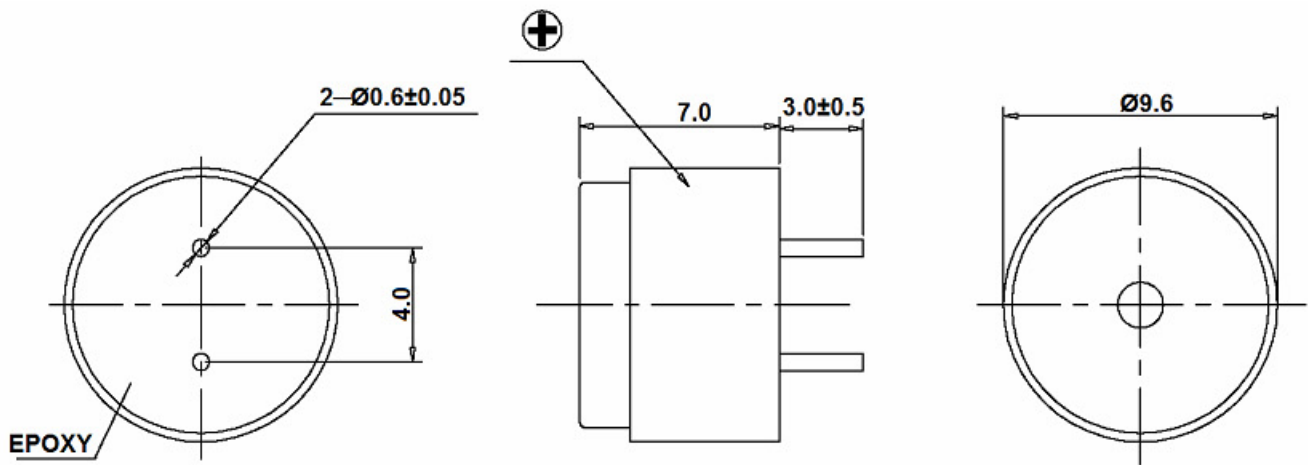

Fig 1
- \* Dimensions: as per Fig. 1